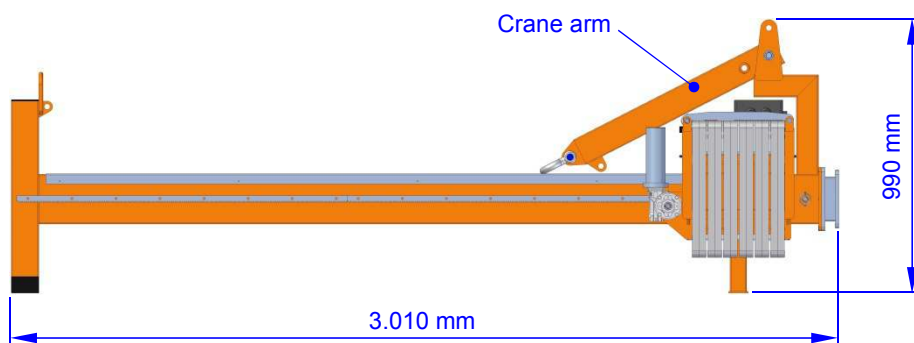

Fig. 4: Transport and storage of the counterweight balancer
- Drive the trolley into the position shown in fig. 4.
- Fold the crane arm into the position shown in fig. 4.